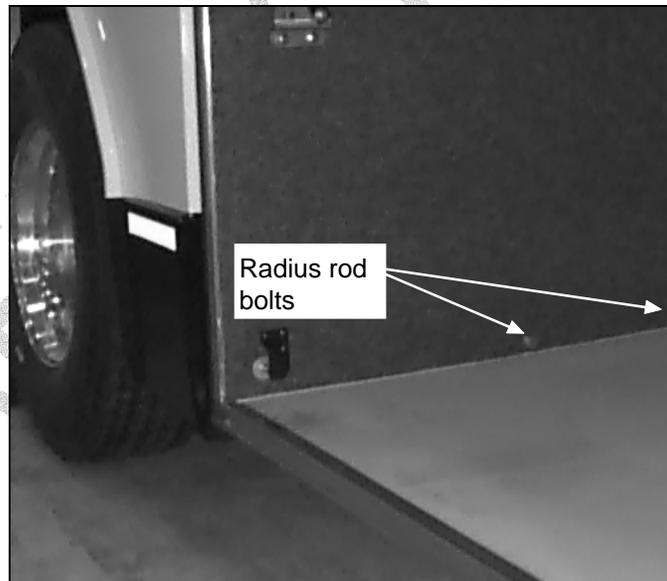

FIGURE 5: BOLTS LOCATION
16. In the baggage compartment, locate the two holes for the radius rods retaining bolts (Fig. 5.)